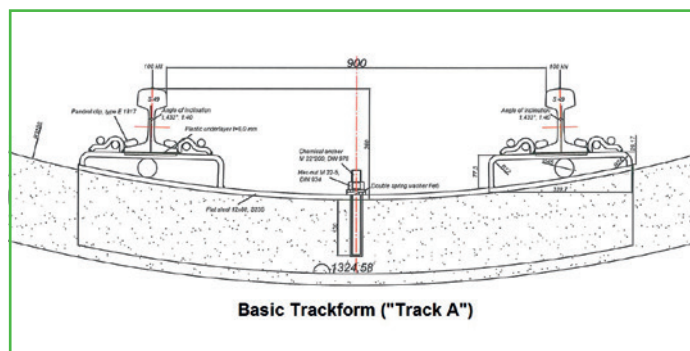

Figure 1. Basic Trackform
- resulted in two types of sleeper (basic and isolated) which were the same height (see Figures 1 & 2).